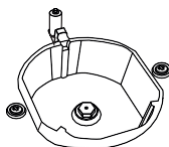
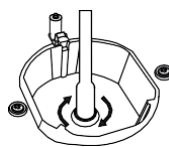

Figure 4
Figure 5
2. Please remove nozzle (figure 4) from burner with special nozzle driver and install new nozzle. (figure 5)